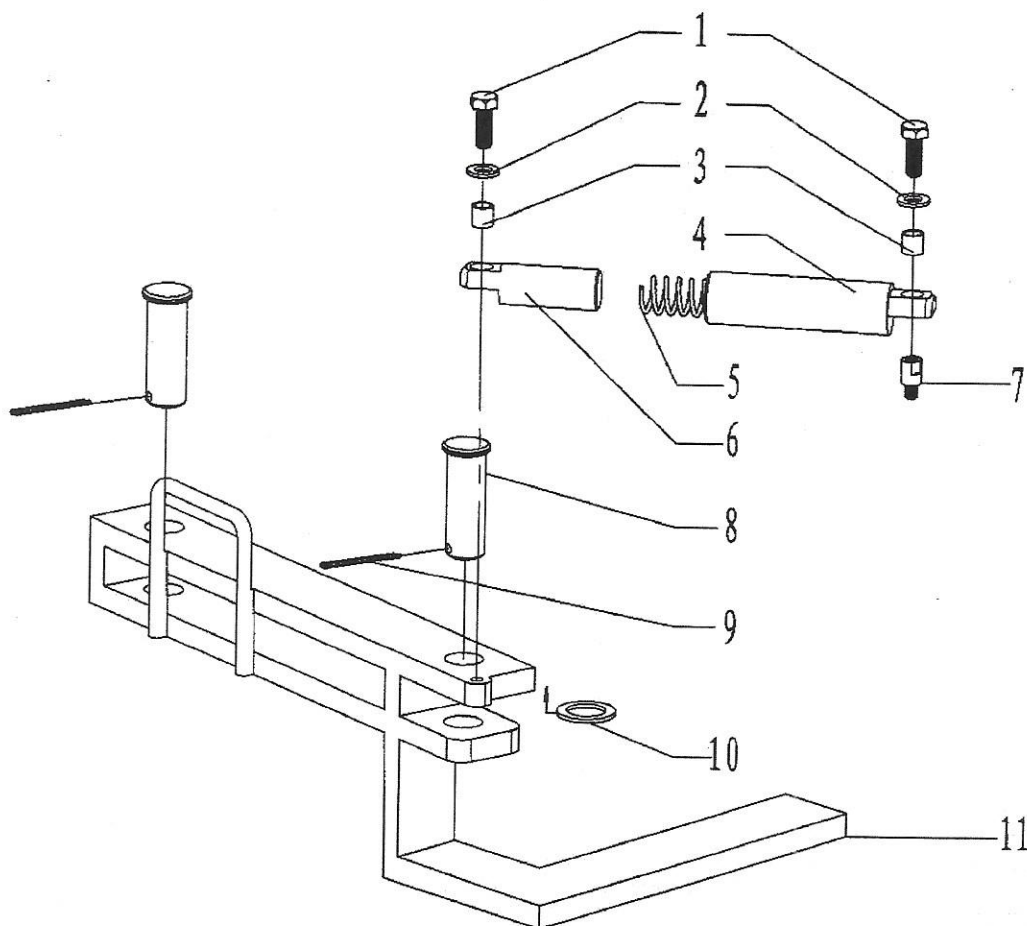

Fig. 24
21. Backup Tong Safety door assembly (Fig24, Table21)